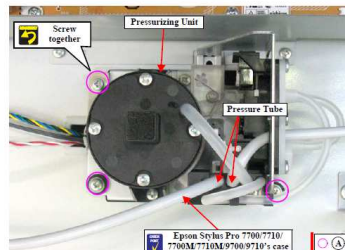

Figure 4-123. Removing the screws securing the Pressurizing Unit
*NOTE:* In Epson Stylus Pro 7700/7710/7700M/7710M/9700/9710's case, disconnect only the Pressure Tube shown in Figure 4-123.